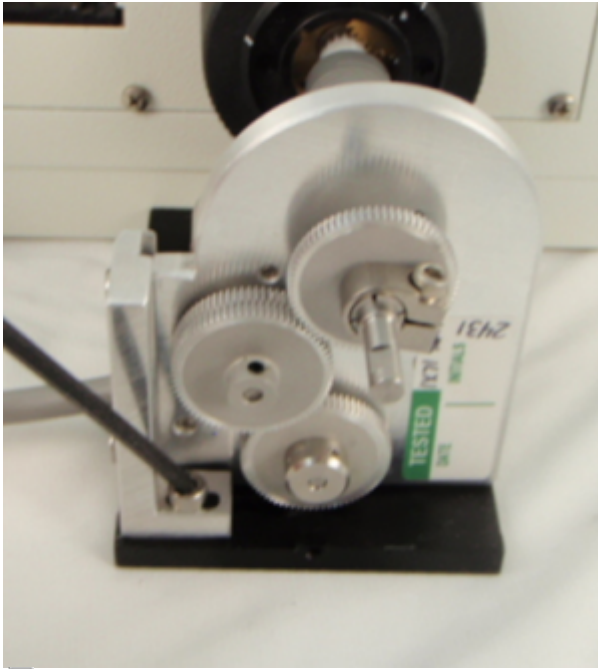

Figure 4b
- b) Once aligned, secure the motor drive into position by tightening the horizontal and vertical adjustment screws (figures 4b & 4c).